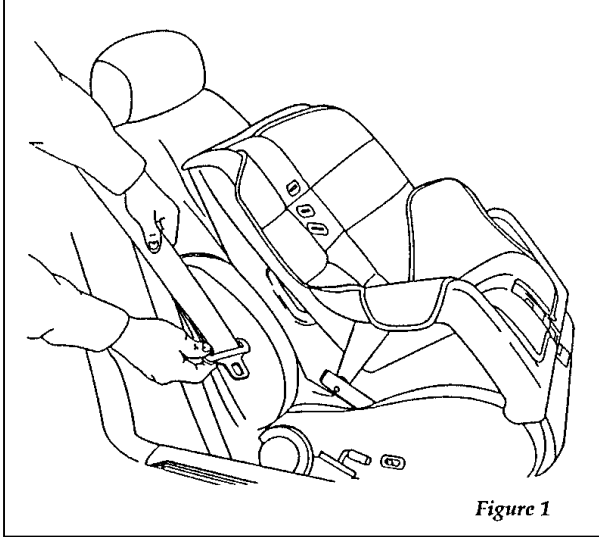

Figure 1
2. Pull down on the shoulder belt, then grasp the shoulder belt and lap belt together. See Figure 1.